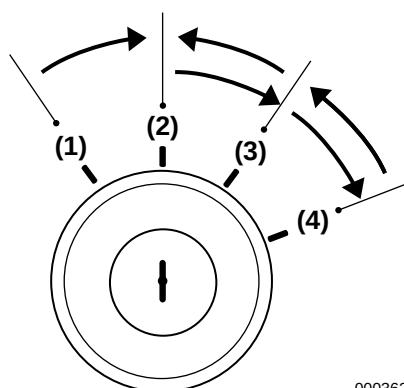

Figure 1
5. Turn key switch to ON (**Figure 1, (3)**). Ensure that the instrument panel indicators light and the alarm sounds. This indicates that indicators and alarm are working correctly.
6. Turn key switch to START **(Figure 1, (4))**. Release the key switch when the engine has started. **NOTICE: NEVER hold the key in the START position for longer than 15 seconds or the starter motor will overheat.**